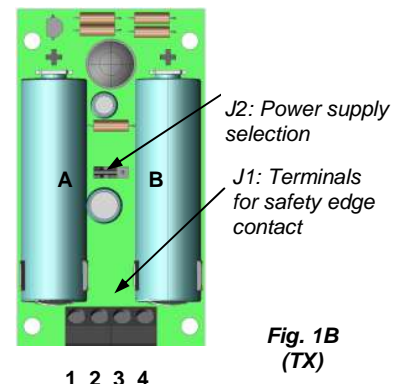

Fig. 1B
- Connect the wires as described in paragraphs 4 and 5 and select the source of power supply with the relevant jumper (J2, fig 1B):
- Connect the output contact of the safety edge (or other safety devices) to the relevant terminals (J1, fig. 1B).